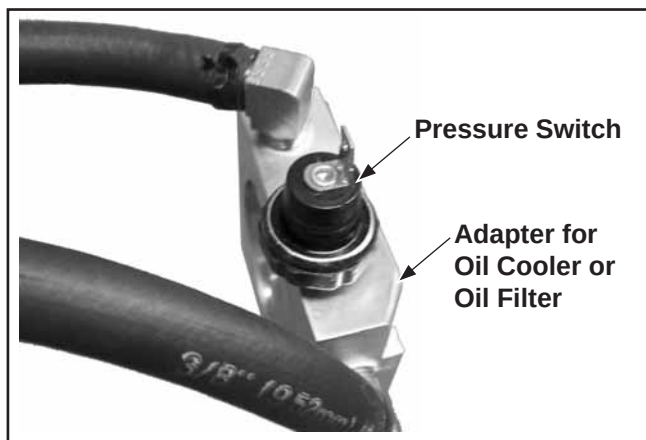

Figure 6-9. Oil Sentry™ Location.
The pressure switch on Oil Sentry™ equipped models is mounted to the oil filter or oil cooler adapter. See Figure 6-9.
2. Install the switch into the tapped hole in the adapter. See Figure 6-9.